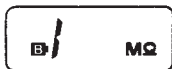

Fig 2
7. If the INSUL. TEST VOLT ON indicator lights up but the LCD shows the “B” marking as shown in Fig. 2 when the POWER switch is pressed to ON, the built-in batteries are nearly exhausted. In this case, replace them with new batteries.